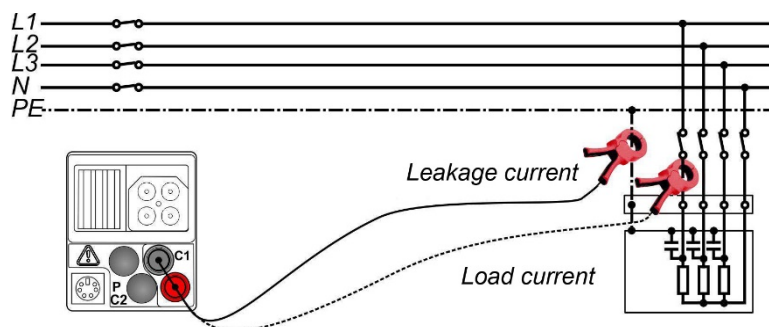

Figure 5.39: Connection of the optional current clamp adapter BENNING CC 1 or BENNING CC 3
- ❑ Clamp the single-wire conductor by means of the current measuring clamp (see figure 5.39).